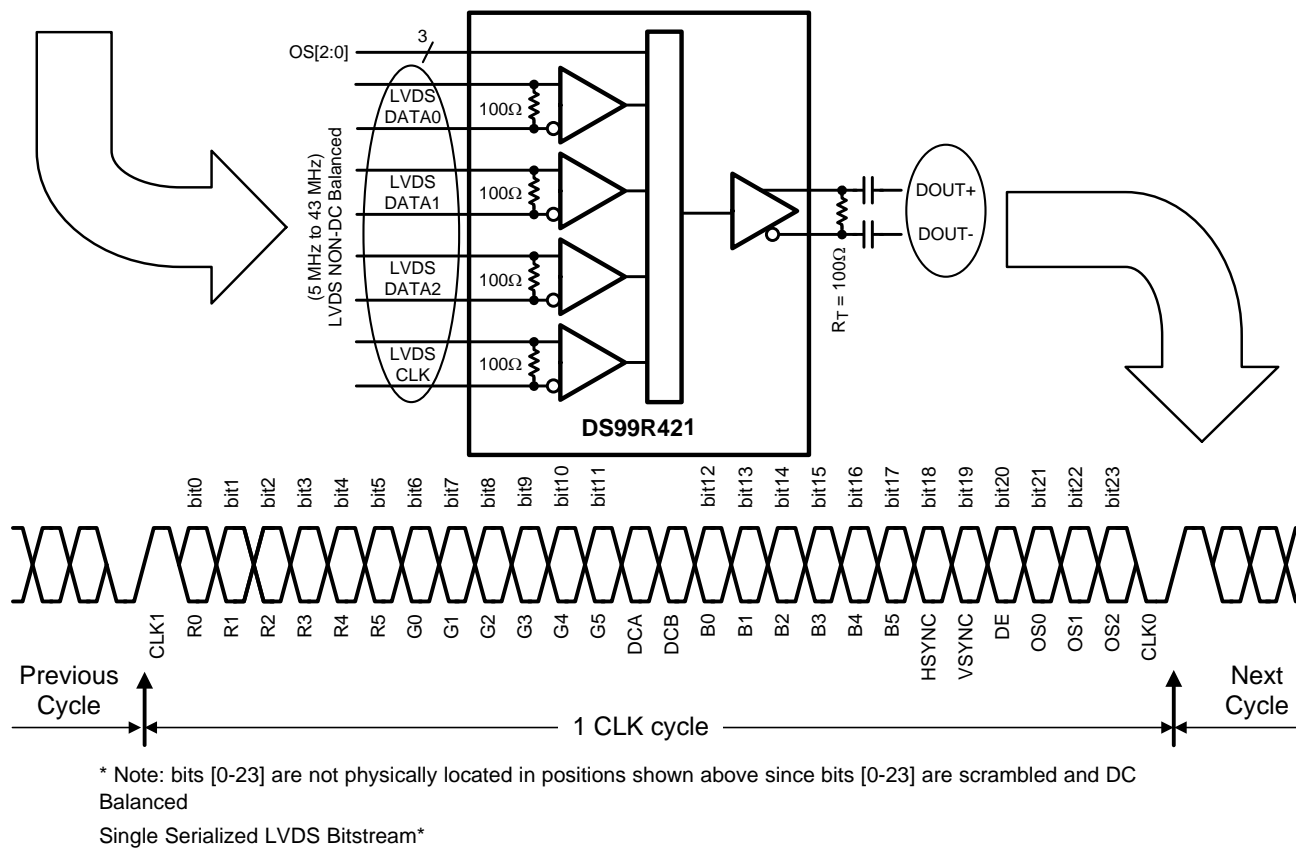

Figure 13. LVDS Data Mapping Diagram
The DS99R421 is a Video Interface converter. It converts an FPD-Link interface (3 LVDS data channels + 1 LVDS Clock, e.g. DS90C365A or equivalent) plus up to three (3) LVC MOS additional signals into a single high-speed LVDS serial Interface (see Figure 13).
Color mapping is application specific. It is very important to properly match the Pixel bit to the correct data channel on the DS90UR124 to properly recover the color and control information. See Figure 13. In this example, the G0 color bit is placed in the RxIN0 channel and is the first bit. The Serializer in the DS99R421 will place this bit as bit number 6. Thus G0 will be recovered by the DS90UR124 on bit 6. The three over sampled bits are mapped to DS90UR124 bits as: OS0 = bit 21, OS1 = bit 22, and OS2 = bit 23.